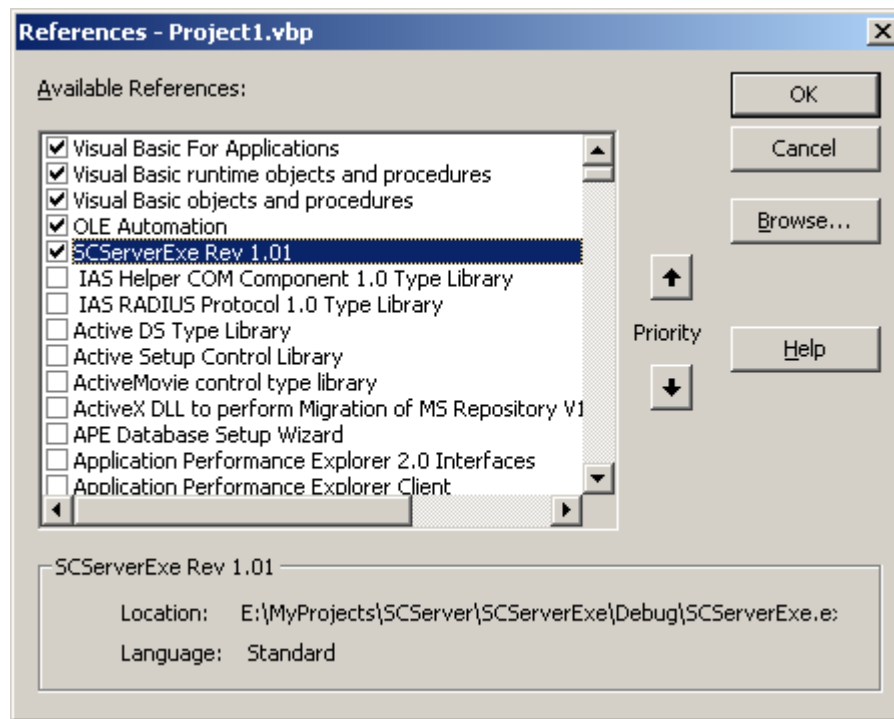

Figure 68: References Dialog Box
2. Open the references dialog box, see Figure 68. (Menu – Project→ References).